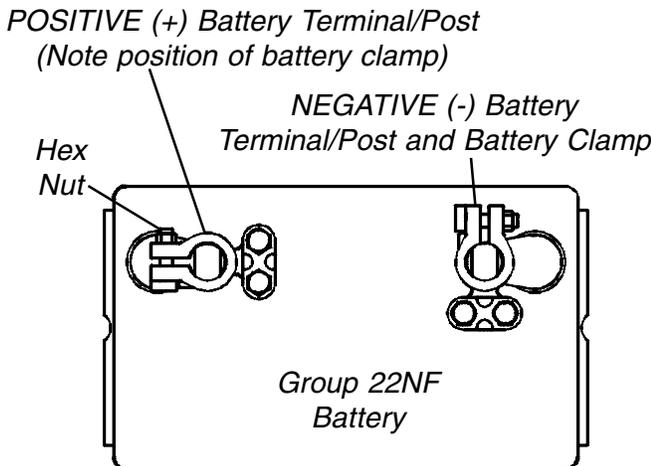

FIGURE 4 - CONNECTING BATTERY CABLES - BATTERY CLAMP METHOD
- C. **FOR DUAL GROUP 22 NF BATTERIES THAT DO NOT HAVE MOUNTING HOLES IN THE BATTERY TERMINAL(S)/POST(S)** - Use battery clamp method. Refer to FIGURES 4, 5 AND 6.
**BATTERY CLAMP METHOD (FIGURES 4, 5 AND 6).**
- B. If the battery clamp on the POSITIVE (+) battery terminal/post is positioned as shown in FIGURE 4, proceed to STEP 2.
- Reposition the battery clamp on the POSITIVE (+) battery terminal/post as shown in FIGURE 4.